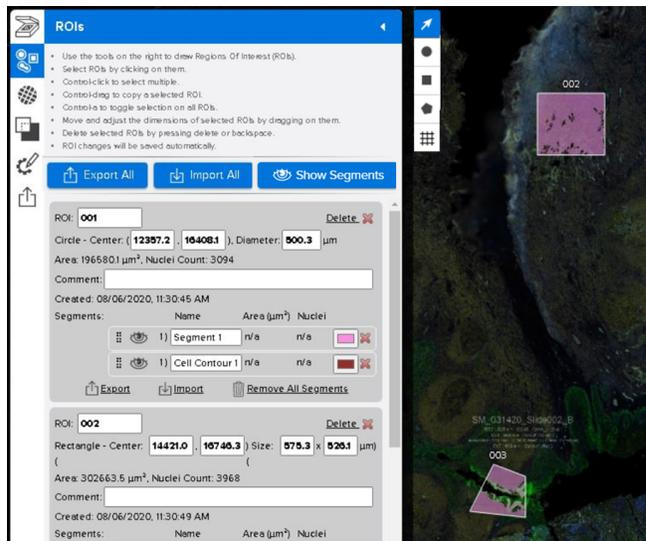

Figure 43: Scan Workspace ROIs List with Export Image link
1. From the ROIs List (Figure 43), select the **Export All** button to export all ROIs for custom segmenting. Alternatively, export one individual ROI using the **Export** button below the ROI.